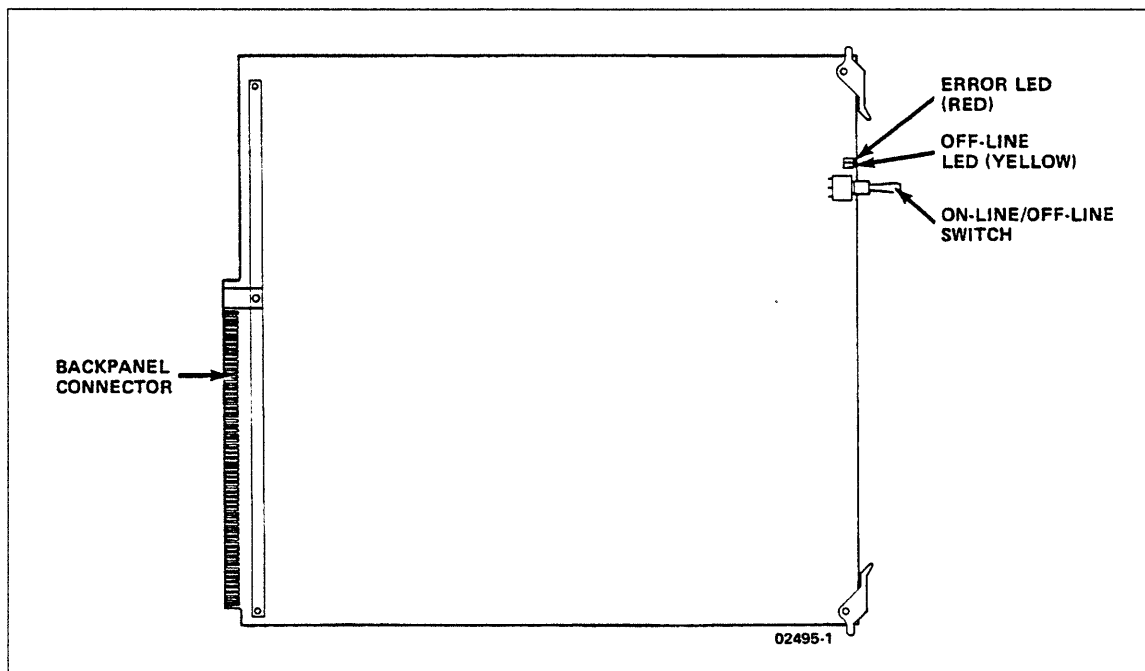

Figure 3-26. SMM Board
1. Unpack SMM board (figure 3-26), equipment identifier label, and FCO label.
5. Pull out and press down on Online/Offline toggle switch to put board in online mode (figure 3-26).